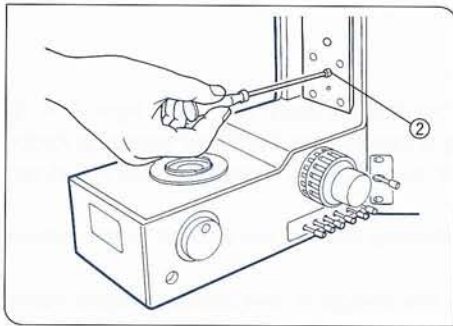

Fig. 36
1. Using Allen screwdriver, loosen the substage bracket clamping screw ① and remove the substage. (Ref. to p. 3)
2. Using the Allen screwdriver, loosen and remove the upper stopper screw ②.
4. Then attach the stopper screw ② to the lower screw hole. (Fig. 36)